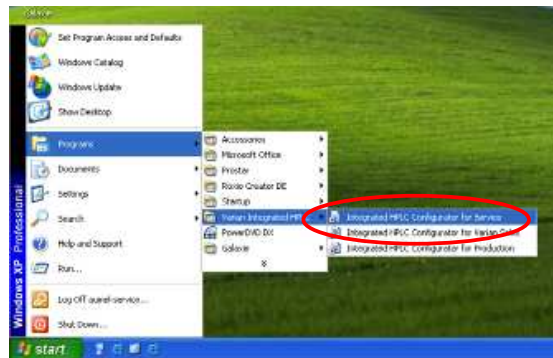

Figure 19: Service Configurator
1. Find the Configurator for Service from the Start Menu/Programs/Varian Integrated HPLC (Figure 19).